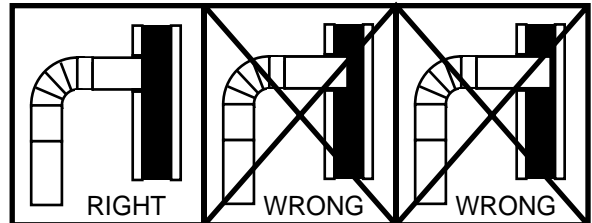

Fig. 6
4. The chimney connector must not extend into the chimney flue. (See Fig. 6)